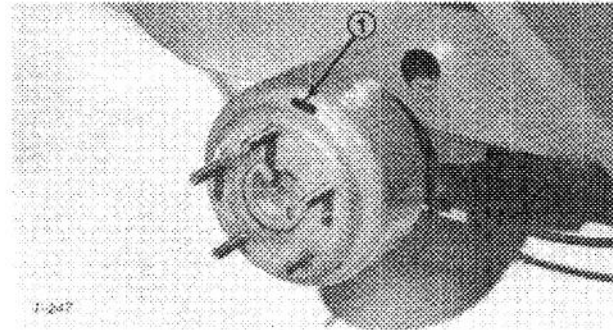
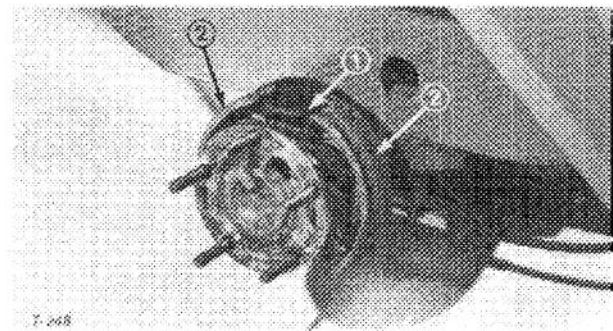

Figure 24
Figure 25
6. Remove wheel nuts and slide wheel and tire assembly off studs. Rotate brake drum until adjusting slot is at top and centered over star-nut that adjusts brake shoes (Fig. 24).
7. Using a brake adjusting tool or screwdriver rotate star-nut (Fig. 25) until brake drum (Fig. 24) locks because of outward pressure of brake shoes (Fig. 25).
4. Using a vise grip pliers, install long end of spring through slotted hole in cutting unit suspension frame (Fig. 25).